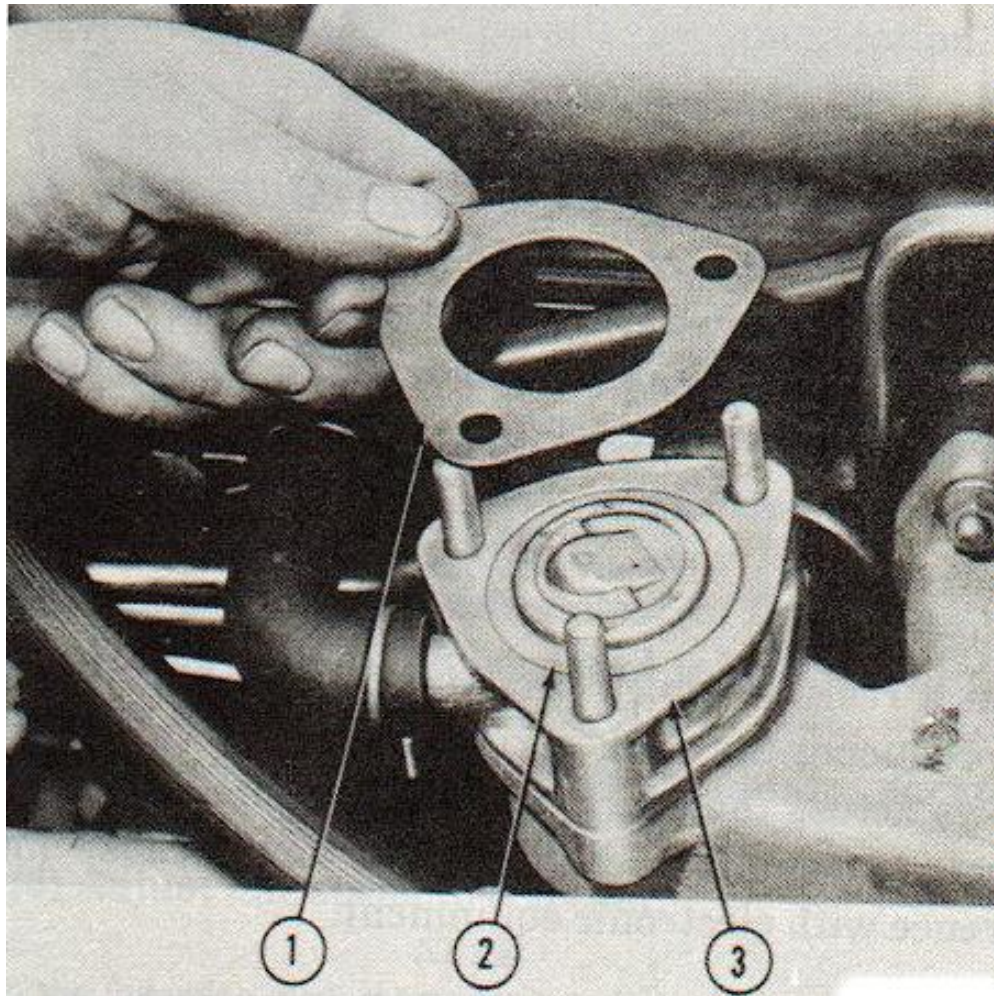

Figure 2-27. Thermostat Installation.
- (1) Install fan, fan pulley and drive belts as outlined in (c) above.
- (2) Tension belts in accordance with procedure outlined in paragraph 2-46j.
d. Thermostat and Bypass Housing. (Fig 2-27)
- (1) Apply sealant to gasket and position on intake manifold studs.
- (2) Position thermostat bypass housing on gasket on intake manifold studs.
- (3) Install thermostat assembly in bypass housing.
- (4) Apply sealant to gasket and position on bypass housing.
- (5) Position water outlet elbow on bypass housing and secure with three hex nuts and lock washers. Tighten to 15-20 lbs-ft.
- (6) Connect radiator inlet (engine outlet) hose on water outlet elbow. Tighten clamp screw.
- (7) Connect bypass hose between cylinder head and thermostat bypass housing. Tighten clamp screw.
- (8) Fill radiator with a proper seasonal coolant solution in accordance with paragraph 2-46.
- (9) Start engine and check for leakage.